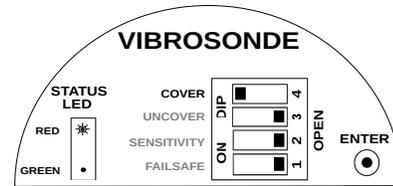

Figure 10: Cover Delay Switch Position
- Set the COVER switch to CLOSE (Opposite of OPEN in a DIP switch) position as shown in Figure 10.